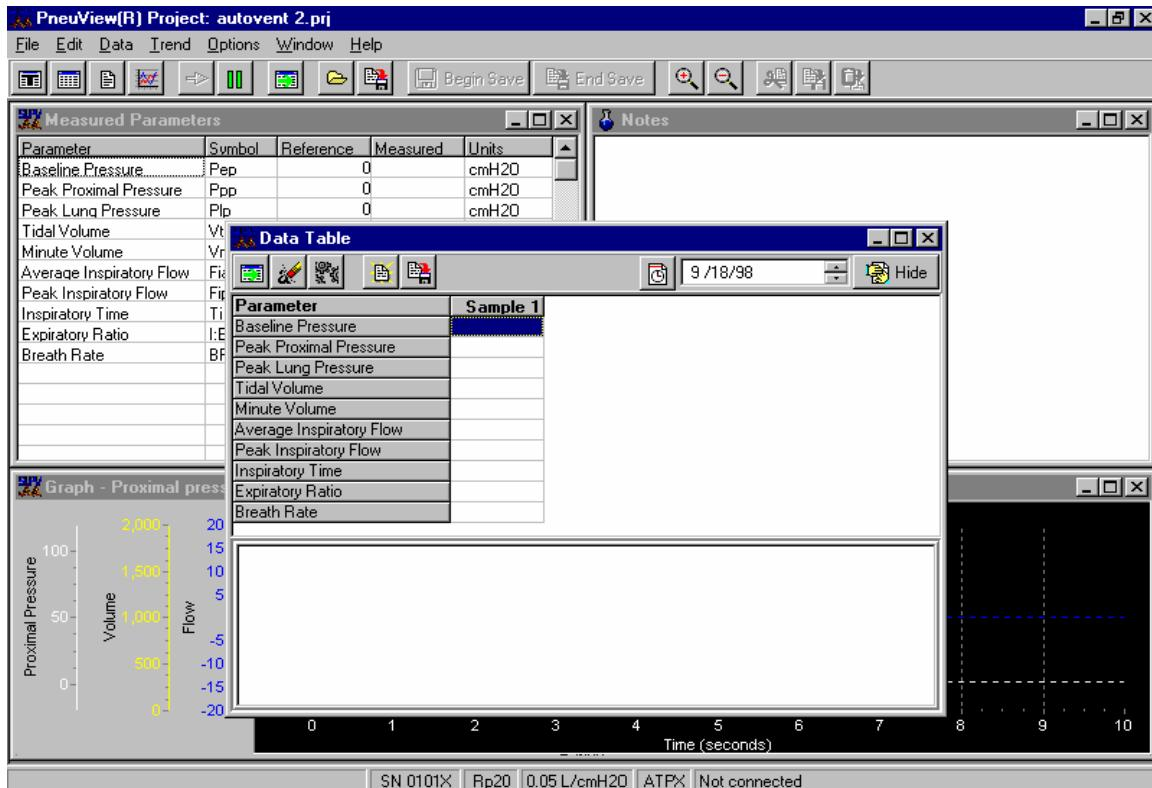

Figure 16 – Data Table Window
2. Check the parameters to be measured with the left mouse button. The parameters can also be selected by pressing the space bar on the keyboard. To clear all of the parameters select the *Clear All* button. To select all of the parameters choose the *Select All* button. When OK is selected, a *Data Table* window appears. *See Figure 16 for display of the Data Table window.*